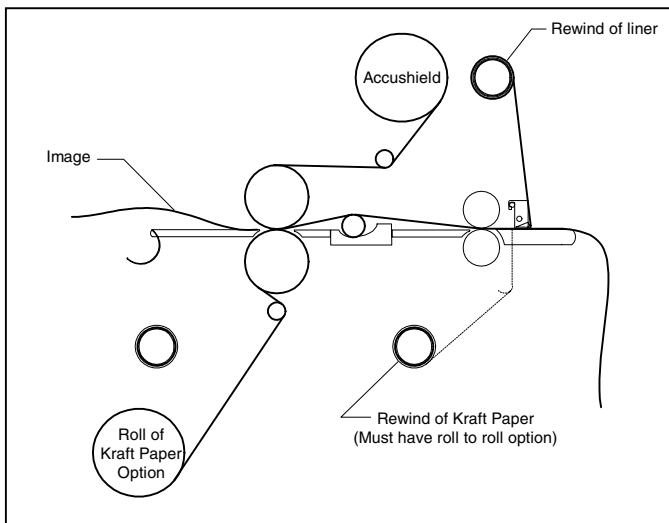

Fig. 43
#### TIPS FOR ACCUSHIELD (Figure 43)
1. Load the laminator as illustrated in Figure 43.